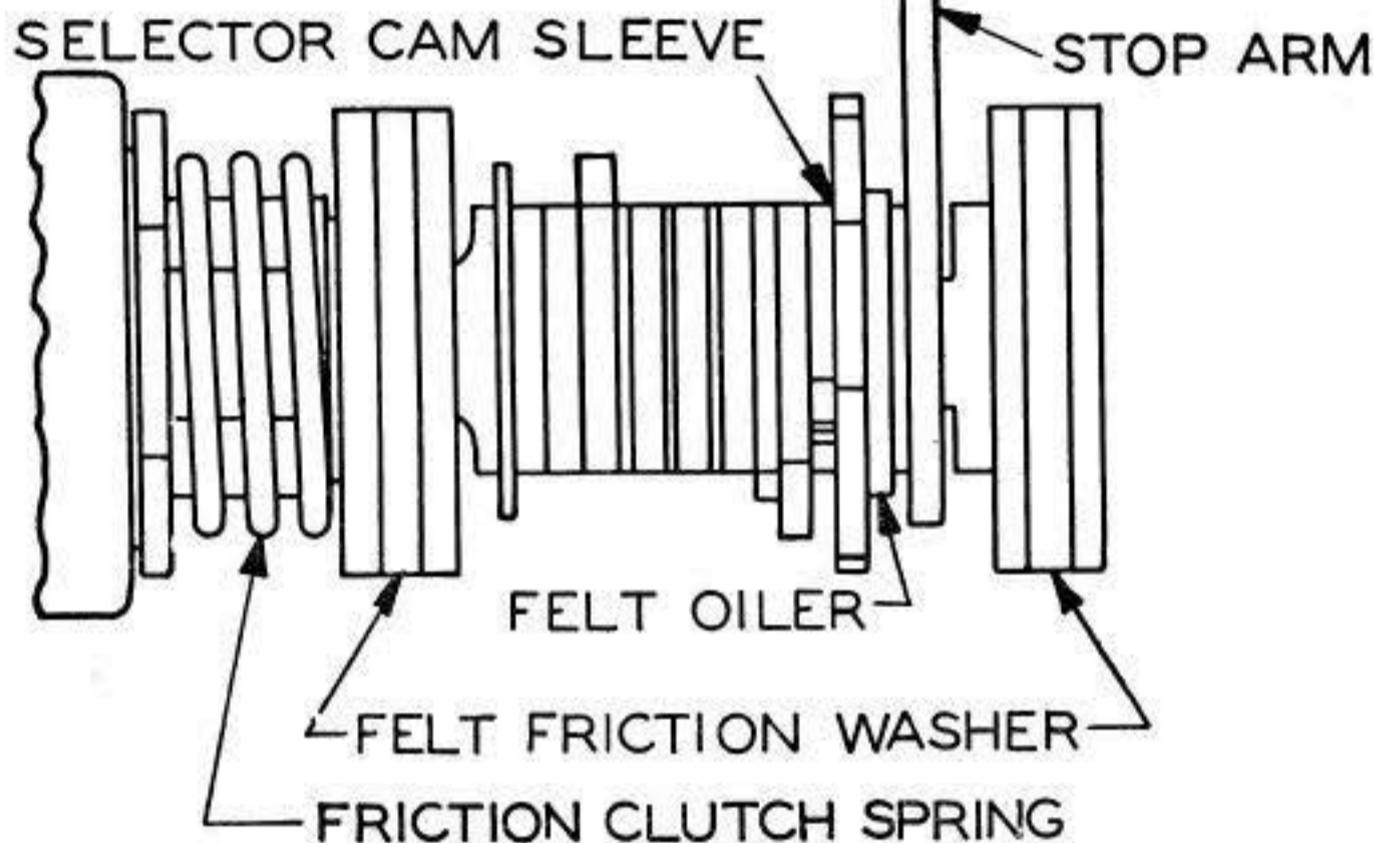

Fig. 1
2.01 **Selector-Clutch Torque:** After the clutch has been relubricated and motor has been run for at least 10 minutes, a pull of Min 14 oz, Max 18 oz applied at right angles to the selector stoparm, when the motor is running, should hold the selector cam sleeve from rotating when the selector stoparm is held just clear of its stop. **Fig. 1**